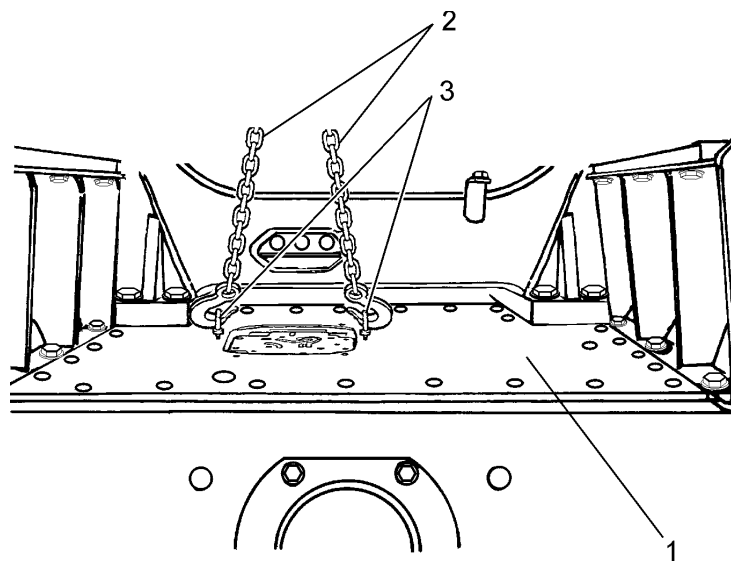

Fig. 7E.11. Positioning the Main Frame Cover
6. With a bolt 5/8"-11UNC-2B installed in the end of the steering drive output shaft (Fig. 7E.7), slide the shaft in so it splines first with the sprocket drive pinion gear and then with the steering drive. Remove the bolt.
7. With a bolt 1/2"-13UNC-2B threaded in output shaft retainer (2, Fig. 7E.6), install the retainer with new seal ring in the pinion gear of sprocket drive. Remove the bolt and install snap ring (1). Reinstall the pinion access cover with new O-ring on the sprocket drive cover.
9. Reinstall tube (1, Fig. 7E.5) between the steering drive and the front surface of the main frame. Secure the tube to support bracket (2) with the hardware previously removed.
10. Secure the dipstick tube (3, Fig. 7E.5) to the rear surface of the main frame with the hardware previously removed.
11. Install two lifting eyebolts 1/2"-13UNC-2B (3, Fig. 7E.11) to the main frame cover (1).
12. Thoroughly clean the mating surfaces of the main frame and cover. Apply LOCTITE 504, to the cover surfaces only. Using a hoist (2, Fig. 7E.11), position the cover on the main frame, being careful not to get excessive amounts of LOCTITE inside the rear main frame. Install the hardware previously removed and torque to 265 [Nm].
13. Install the main frame filler tube and dipstick (3, Fig. 7E.3) and the breather with pipe (5).
14. Install the gear shifting valve (7, Fig. 7E.2) as described in Paragraph 33, INSTALLATION in SECTION 7C.